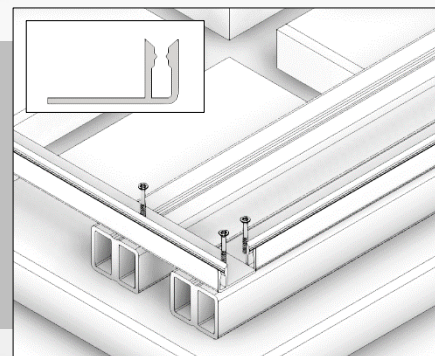

FIG. 12
- You can, in the final step of the installation, use aluminium or composite corner profiles and aluminium transition profiles. To do so you must install aluminium sub-profiles before the terrace boards are mounted (Fig. 12). Always take the natural movement of wood into account by leaving space between the sub-profiles and the decking boards (Fig. 13).